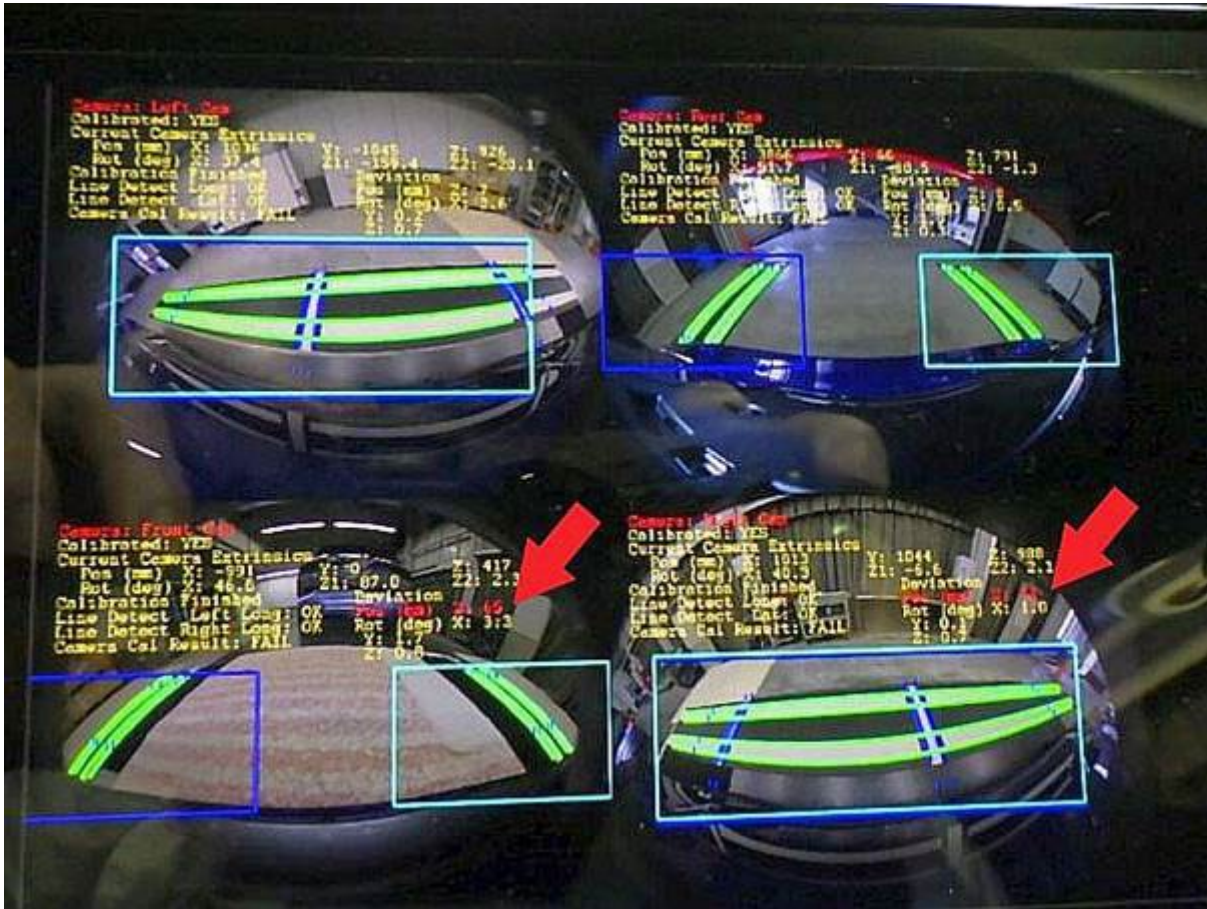

Figure 5: Camera calibration as displayed on the MMI with insufficient ride height
The MMI calibration screen indicates that the height correction values of the camera (Z) are outside the tolerances (see **Figure 5**).